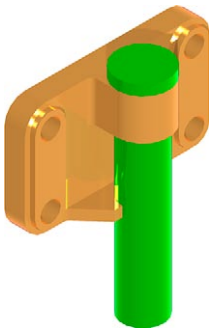

Fig. 18.14 First example – 3D models
First example (Fig. 18.14)
7. **Isometric** view. Render. Adjust lighting and materials as necessary (Fig. 18.14).